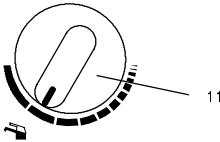

fig. 2.8
Moreover, where the amount of limescale present in the water may be particularly great, not exceeding the position in **fig. 2.8** of the domestic hot water control knob (11) corresponding to about 50°C (fig. 2.8), minimises annoying incidences of scale deposits and clogging.